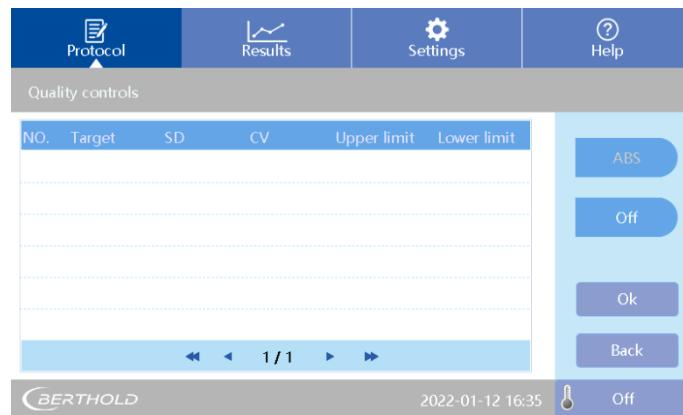

Fig 32: Quality control
- See Fig 2: [Protocol] main interface and click <Quality> to enter the submenu for quality control. See Fig 32.